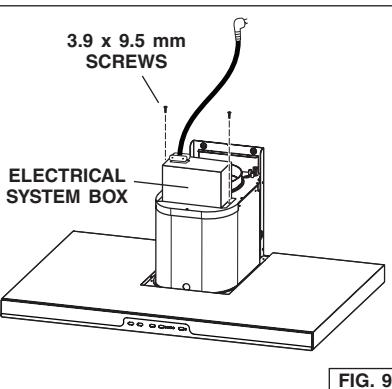

FIG. 9
1. Remove the tape on the electrical system box and secure with (2) 3.9 x 9.5 mm screws. Fig. 9.